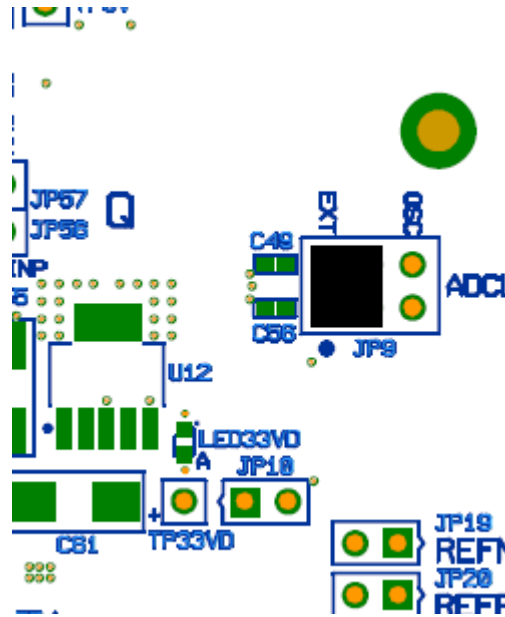

Figure 23. External ADC Sampling Clock Configuration
1. Reconfigure JP9 as shown in Figure 23. The rest of the jumpers remain the same.
2. Connect the external generator as shown in Figure 23.